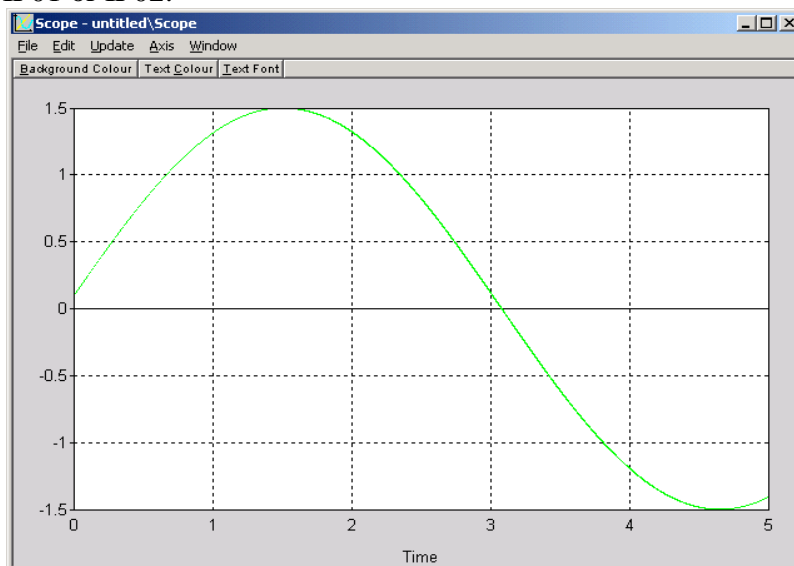

Figure 11 Output Voltage Displayed in a WinCon Scope
Step 20. A Scope similar to the one shown in Figure 11 should plot the actual voltage being sent to drive the IP01 or IP02 cart. It should be observed that a positive voltage results in a motion of the cart to the right, when facing the IP01 or IP02 (i.e. when facing the position and motor pinions in front of the cart). Likewise a negative voltage should result in a motion of the cart to the left-hand side of the track, when facing the IP01 or IP02.